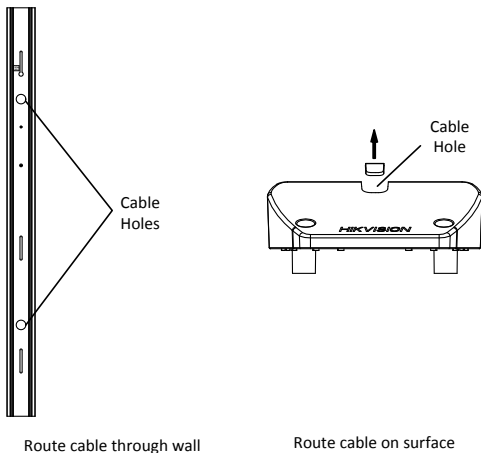

Figure 2-13 Plan Cable Routing
- 1). If you choose to route cable through wall, drill a cable hole according to the size and height of cable hole on the base. See Figure 2-13.
- 2). If you choose to route cable on surface, make a cable hole on the top or bottom cover. See Figure 2-13.